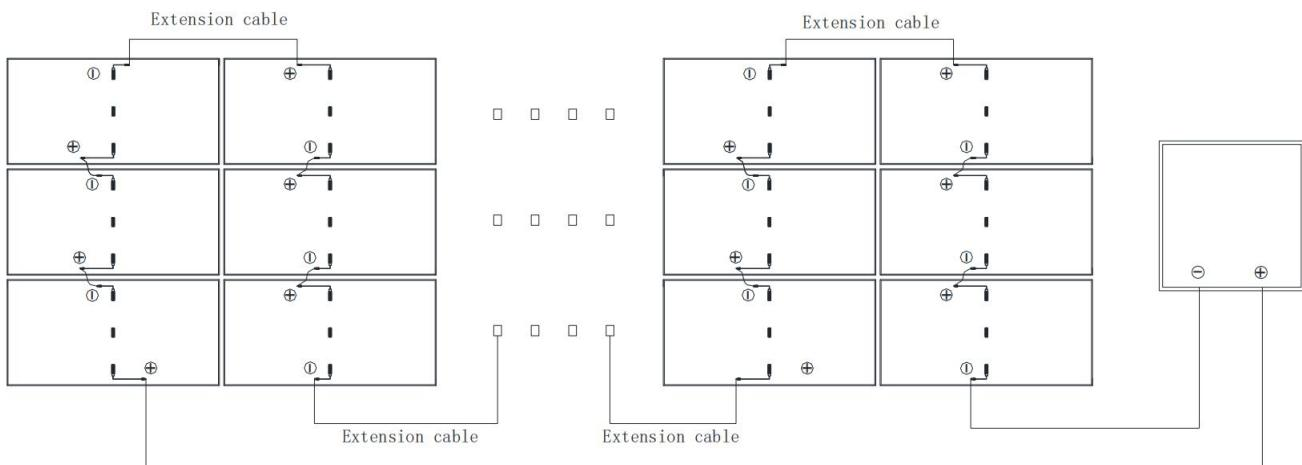

Fig. 9-2 Horizontal installation of short cable modules
1. The horizontal installation connection methods see Fig. 9-2.